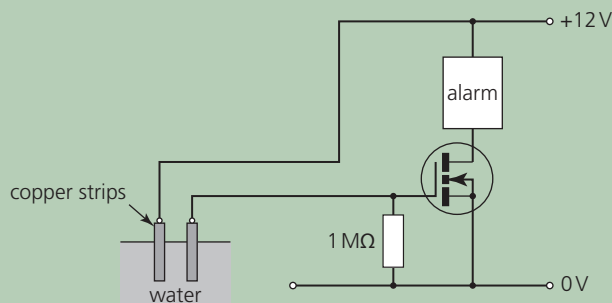

Figure Q1
Figure Q1 shows an n-channel enhancement mode MOSFET, being used as part of a circuit for the water level alarm in a garden pond. When the gap between the copper strips is filled with water, the MOSFET turns on and the alarm sounds.
- c. The circuit is tested by immersing the copper strips in the water, and bringing them closer together until the alarm sounds. V_{th} for the MOSFET in Figure Q1 is 2.4 V.